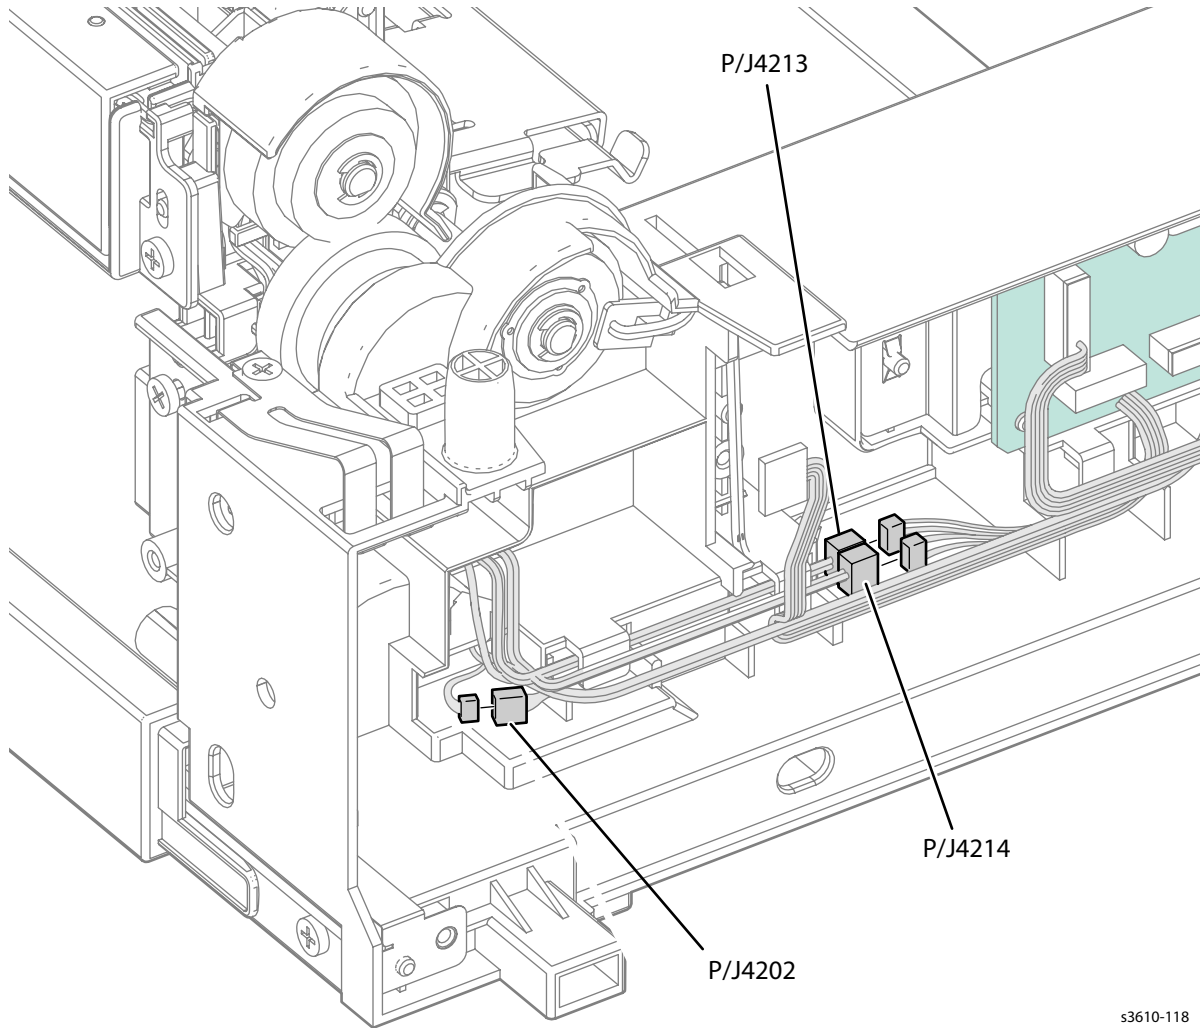

Figure 1
2. Disconnect P/J 4202, 4213 and 4214. (Figure 1)